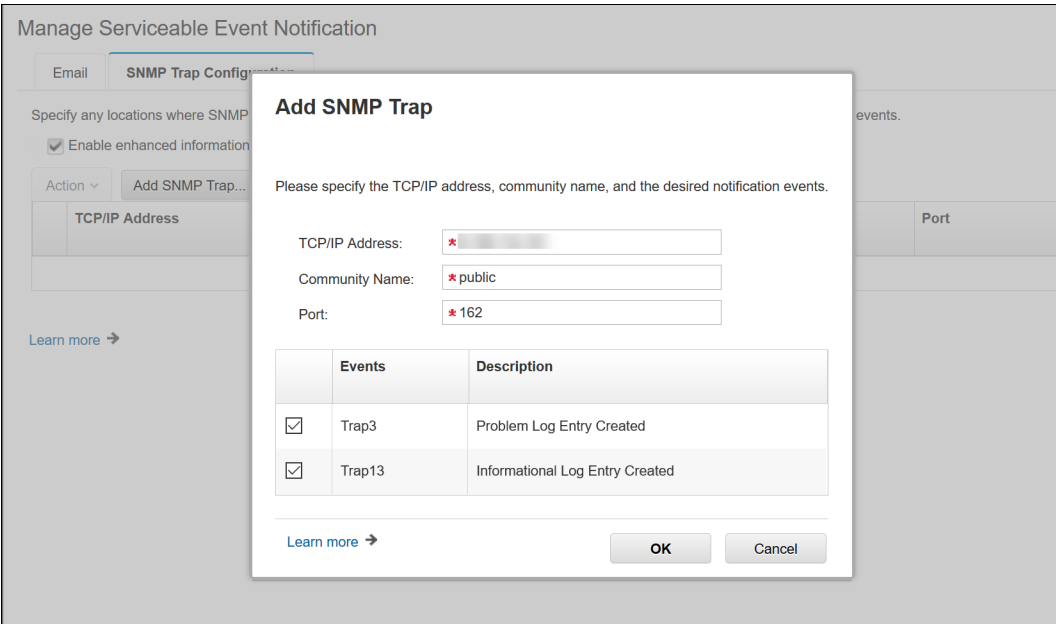

Figure 12-3 HMC Manage Serviceable Event Notification
3. A new window opens. Enter the TCP/IP information of the SNMP server in the SNMP Trap Configuration dialog. Select at least one event out of Trap 3 and Trap 13, as shown in Figure 12-3.